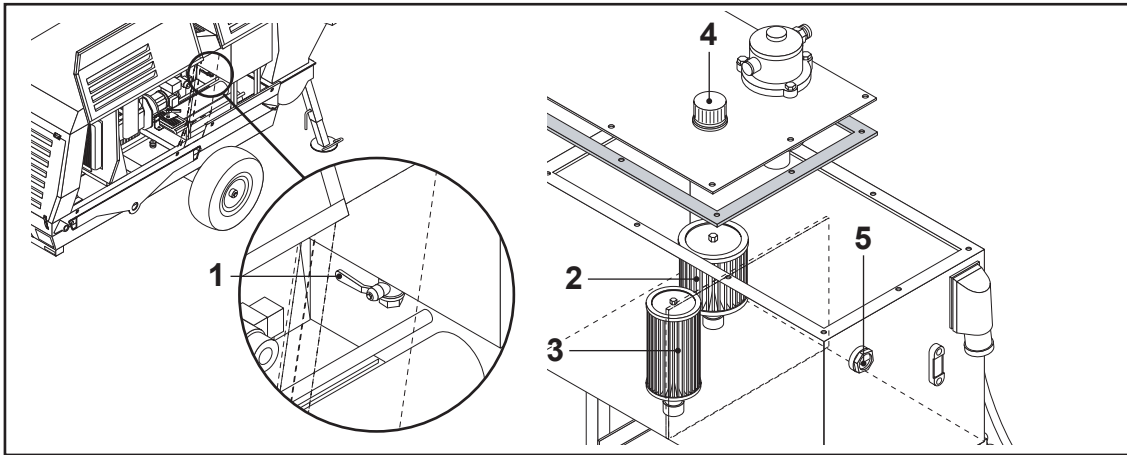

FIG. 81
- Open the valve (FIG. 81-REF. 1) beneath the oil tank to drain the tank, placing an adequately sized container below it to collect the oil.
- Unscrew and replace the internal filters (FIG. 81-REF. 2/3) and close the tank after inspecting the conditions of the gasket (replace if necessary).
- Open the cap (FIG. 81-REF. 4) and fill the tank with 75 litres of ELF OLNA DS 46 hydraulic oil.
- Check the oil level through the inspection window (FIG. 81-REF. 5).
- Start the engine and let the hydraulic pump run idle for a few minutes while checking the oil level through the inspection window (FIG. 81-REF. 5); if the level is below the inspection window, add more oil.